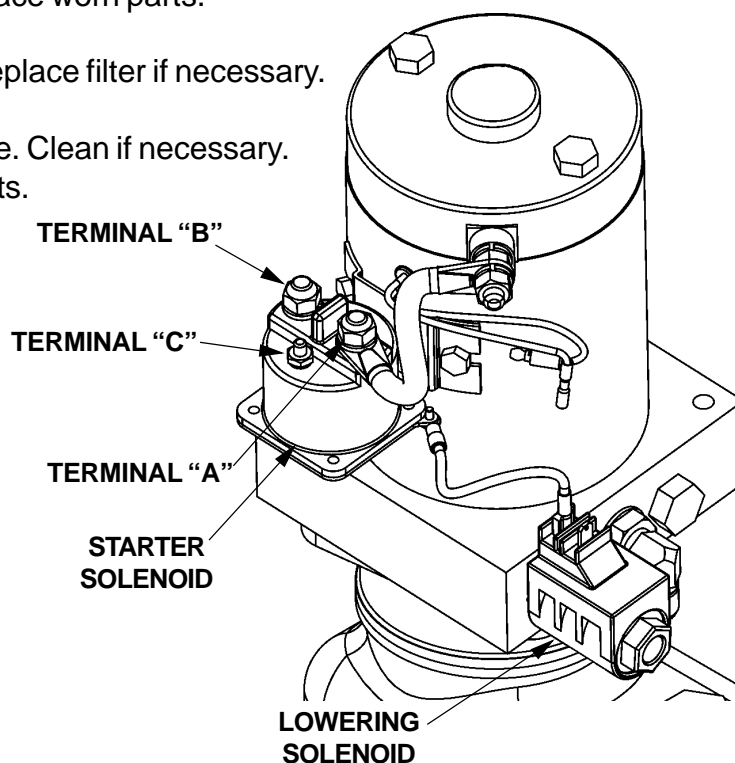

FIG. 36-1
1. Use voltmeter to verify that power is being supplied to Solenoid Terminal "A" (FIG. 36-1.) Recharge the battery if less than 12.6 volts.
3. Touch a jumper wire to terminals "B" & "C" (FIG. 36-1). If motor runs check Switch, switch connections, and White wire. Check and correct wiring connections or replace the Switch.
4. Touch heavy jumper cables to terminals "A" & "B" (FIG. 36-1).